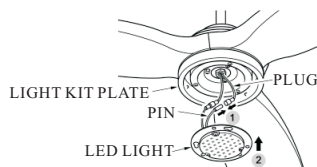

FIG.15
4. Plug together light kit wires from fan to light kit wires from LED light. (see Fig.15)